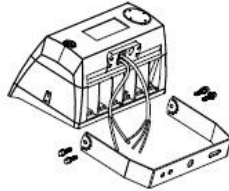

Figure 5
- Step 1. Install the two big screws (Figure 5).